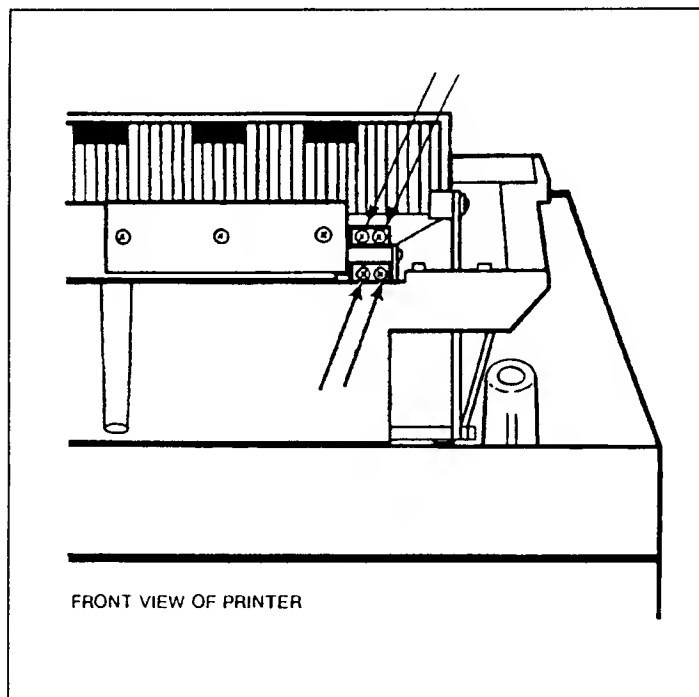

Figure 5-2. Crank Arm Screws
- e. Loosen all four crank arm screws (see Figure 5-2). Move the counter balance weight until the scribed line is parallel with the edge of the adjustment tool.